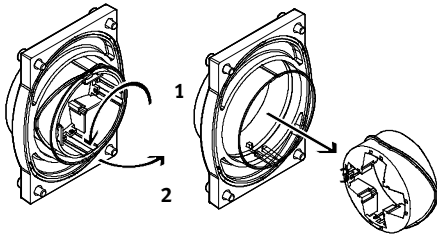

Fig. 10: Removing the indicator ring
2. Pivot the indicator ring around 90° (see Fig. 10).
1. Insert the indicator ring back into the sensor box cover, by reversing the steps for removal (→ also Fig. 10).